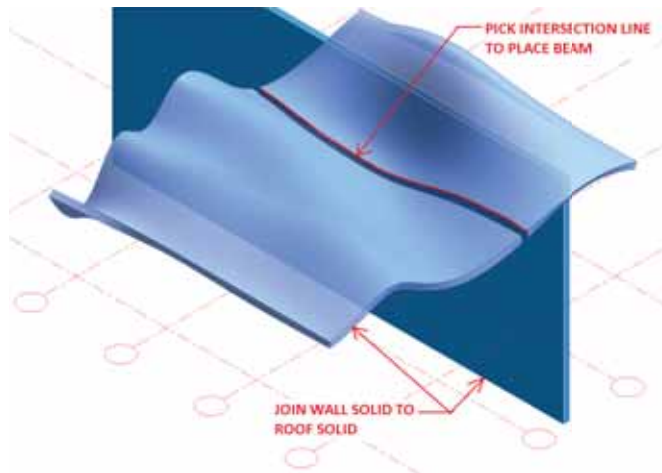

Figure 5 - Joining Walls and Roof Solids, and Picking the Beam Location
99.999% of the time, you will only ever need to place curved beams curving in one direction, in other words, curved in only one plane meaning the web of the beam remains plainer. The following method below and illustrated in Figure 5 describes how to place these types of beams using the standard structural beam > pick command. Beams curved in two directions will be covered in the next segment and will need to be placed using in-place masses.
3. Join the vertical wall to the roof using the "join" command. Note that when the wall and the roof are joined then the wall "cuts" out a portion of the roof as shown in Figure 5.
- To place the beam, activate the beam > “pick” command and pick the intersection of the vertical wall and the roof surface as shown in Figure 5.